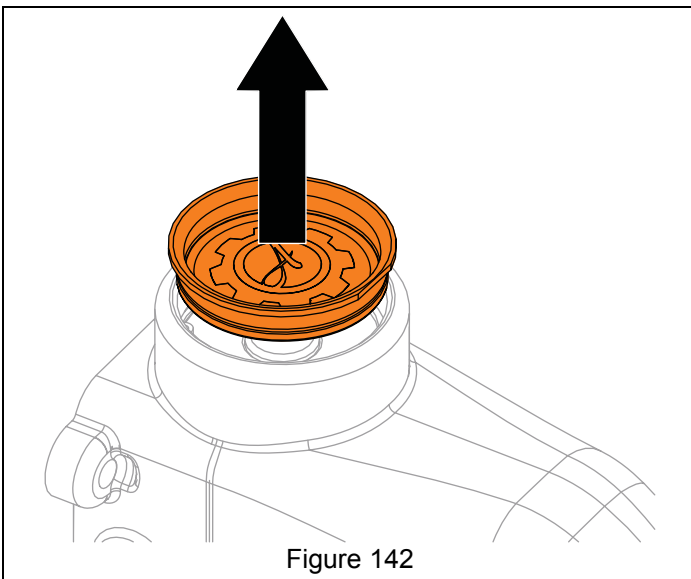

Figure 142
9. With a flathead screwdriver or similar pry bar, remove front seal cover and discard. See Figure 142.